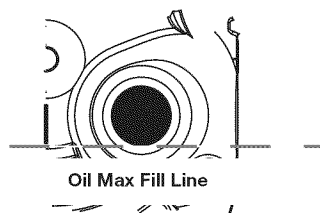

Fig. 18
- Look into the oil fill hole; use a flashlight if needed. The oil should be just touching the inner most thread (Fig. 18).
- If the oil level is not touching the inner most thread on the oil fill hole, add a small amount of oil to the oil fill hole and recheck (Fig. 18). Repeat this procedure until the oil level reaches the innermost thread on the oil fill hole.